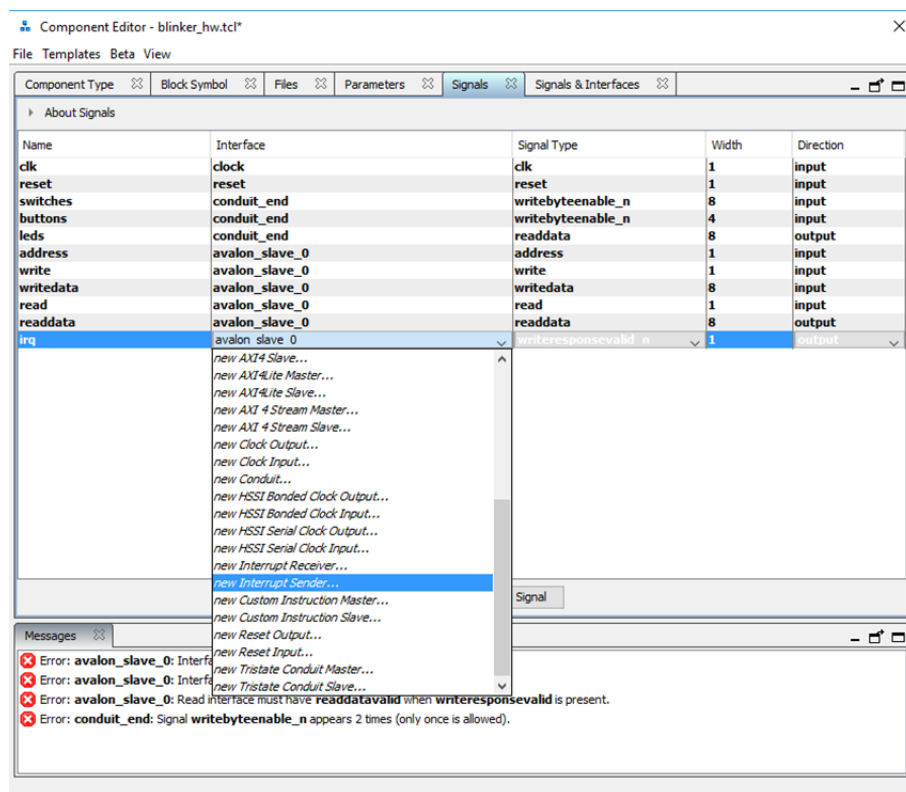

Fig. 93: Assigning interface to irq signal
12. Make sure to assign “irq” to an “Interrupt Sender” interface and set the signal type to “irq” (see Fig. 93).